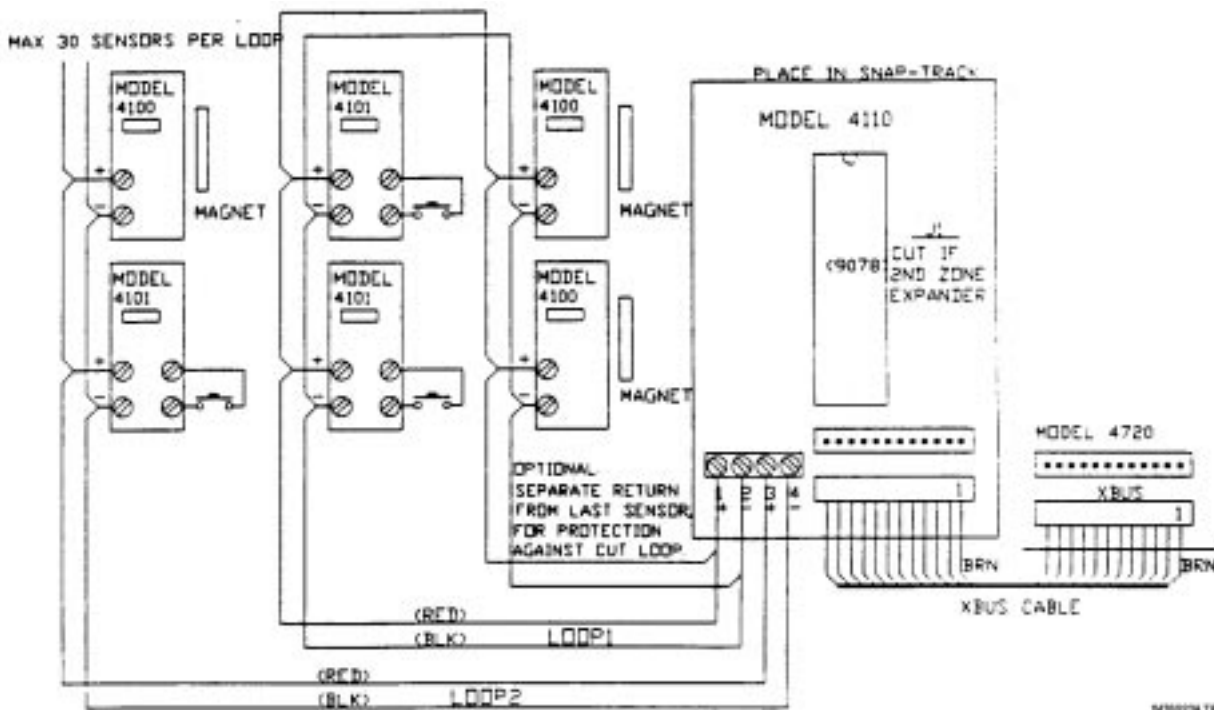

Figure 12.1.1a: Wiring the Model 4110 Serial Zone Expander
Figure 12.1.1a shows how the two (2) serial loops are connected to the Model 4110. Wiring runs should not exceed 1000 ft. For UL installations, each loop must be run in a separate 2-wire cable to eliminate interference. If you use shielded cable, connect one end of the shield to circuit ground (4720 Terminal 6), and leave the other end disconnected.